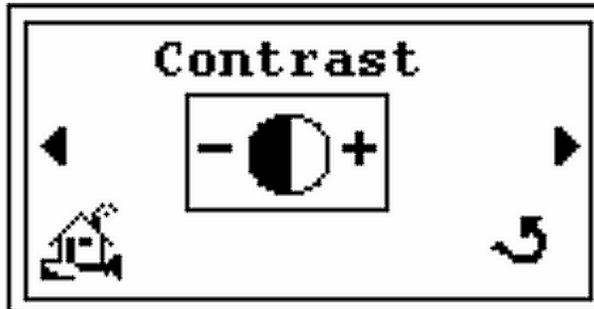

Figure 2-41 Contrast - Initial Screen
4. Press the  and the *Contrast* screen appears (Figure 2-41).